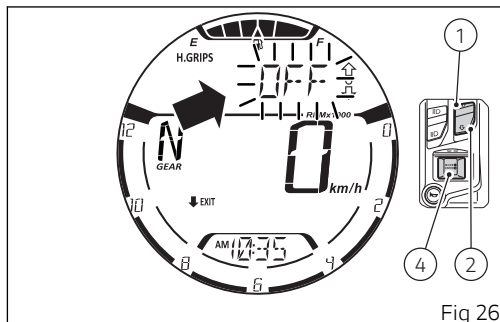

Fig 26
The level can be set by pressing button (4). The instrument panel enters the setting procedure of the heated handgrips level, making the current level flash and showing the indication "EXIT" preceded by the black arrow facing downwards (Fig 26).